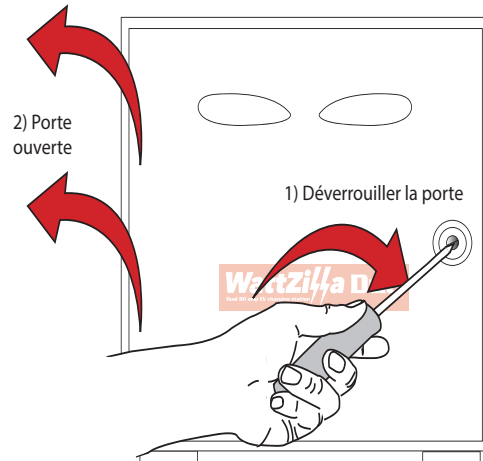

Figure 9. Opening the QuadZilla Enclosure
1. Insert a hex wrench into the door latch and turning the tool counter clockwise until it stops at the open position (Figure 9). Open the QuadZilla enclosure door.